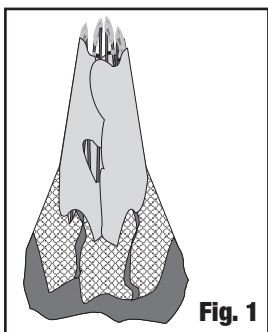

Fig. 1
- Stand the screenhouse upright with the hub assembly at the top. (Fig. 1)
- Collapse the screenhouse by folding the arms upward until the screenhouse stands upright with the hub assembly at the top. (Fig. 1)